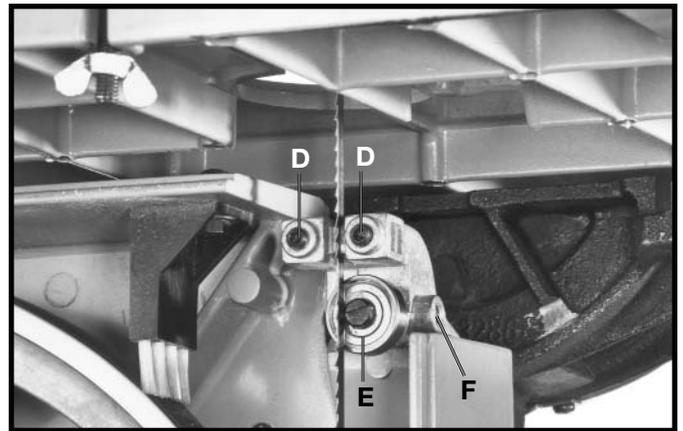

Fig. 24
2. The lower blade guides are held in the guide bracket with set screws (D) Fig. 24. Loosen set screws (D) and adjust blade guides as close as possible to the sides of the saw blade, being careful not to pinch the saw blade. Then tighten set screws (D).
3. The lower blade support bearing (E) Fig. 24, prevents the blade from being pushed back too far while cutting which could damage the set in the saw teeth. The lower support bearing (E) should be adjusted approximately 1/64" behind the blade by loosening set screw (F) and moving the support bearing in or out. When adjusted, tighten set screw (F).